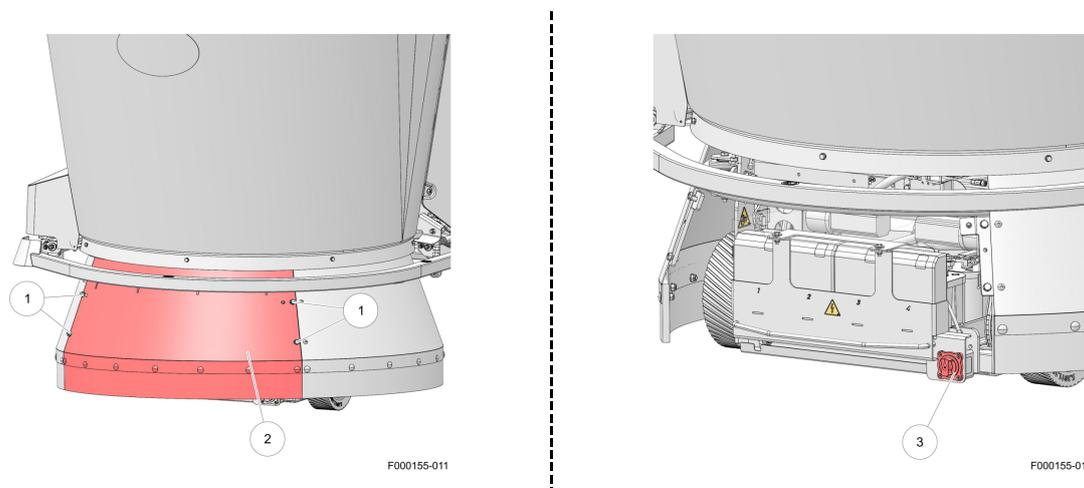

Figure 37. Main switch Mixing and Feeding Robot
6. Remove the skirt piece and switch off the main switch of the Mixing and Feeding Robot (see figure 37 on page 5-11).
3. Remove the bolts (1) (see figure 37 on page 5-11) and the skirt piece (2).
4. Turn the main switch (3) to the OFF position.
5. Install the skirt piece (2) with the bolts (1).
2. Remove the bolts (1) (see figure 37 on page 5-11) and the skirt piece (2).
3. Turn the main switch (3) of the Mixing and Feeding Robot to the **On** position.
4. Install the skirt piece (2) with the bolts (1).